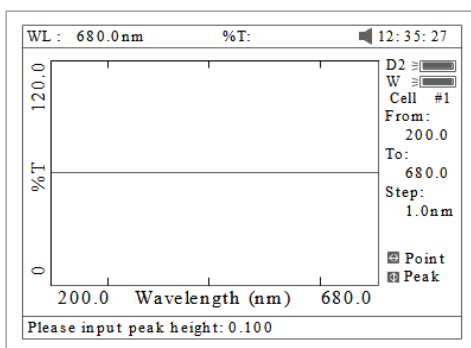
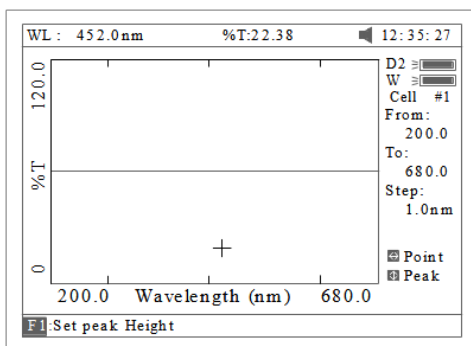

Fig 50
Fig 51
1. **Peak to peak**, press **【F1】** to set “peak height” and input value by pressing the numeric keypad (Fig 50). Press **【λ】** to search the peak from left to right and press **【v】** to search from right to left. The value of every peak found will be displayed on the screen one at a time (Fig 51).